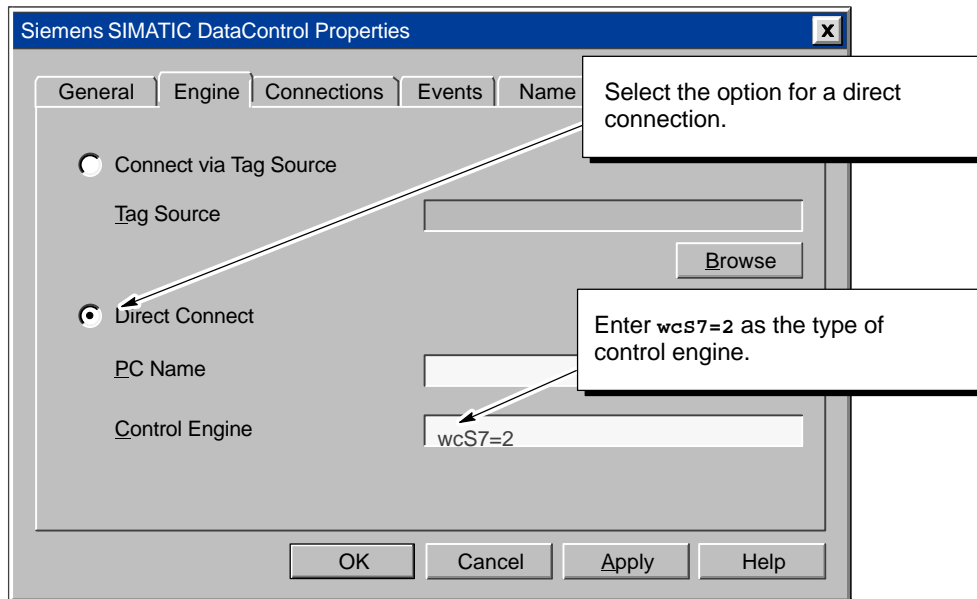

Figure 1-10 Connecting the Data Control to a Control Engine
1. Select the Engine tab to configure the control engine. See Figure 1-10.
Before you run the I/O Panel program, make certain that the control engine is running the sample program “Counters”, and that you have configured the access point “Computing” ( see Section 3.3) and selected the control engine in the Data control (Figure 1-10).